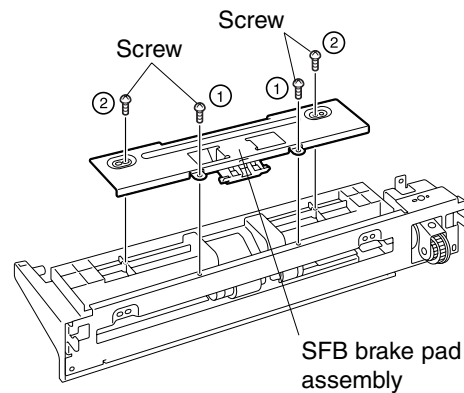

Fig. 6-12
3. Detach SFB feed cover. (See Fig. 6-12 and 6-14)
Before attaching the SFB feed roller assembly, loosen 2 screws securing the SFB feed roller fixing plate. Attach the SFB brake pad assembly (See Fig.6-12), then fix the SFB feed roller fixing plate in place.
- Detach SFB feed cover. (See Fig. 6-12 and 6-14)